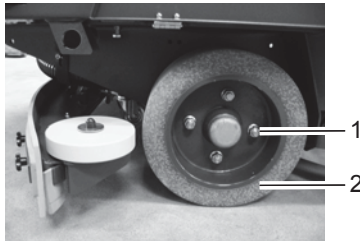

Fig. 46
The wheel nuts on the wheels (Fig. 46/1) must be subjected to their first check after 100 operating hours and subsequently every 200 hours.
The tightening torque for the wheel nuts (Fig. 46/1) is 140 Nm.
2. Remove the wheel nuts (Fig. 46/1).
3. Pull off the wheel (Fig. 46/2).
4. Fit a wheel (Fig. 46/2).
5. Screw on and tighten the wheel nuts (Fig. 46/1).